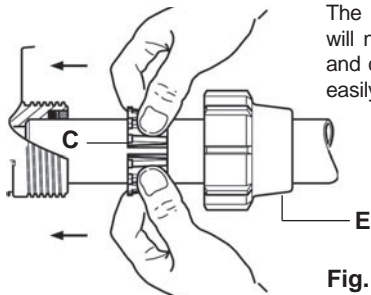

Fig. 4
- Bevel the end of the pipe and slide on nut (**Fig. 4-E**) and then ferrule (**Fig. 4-C**).
- Slide pipes into water inlet and outlet (**Fig. 4**) as far as they will go.
- Push one ferrule (**Fig. 4-C**) against the inlet and the other against the outlet.
- Tighten the nuts (**Fig. 4-E**).
- Then place the ferrules over the pipe using both thumbs in the slot to widen the ferrule (**Fig. 4-C**) and avoid scraping off the adhesive, then tighten the nut.